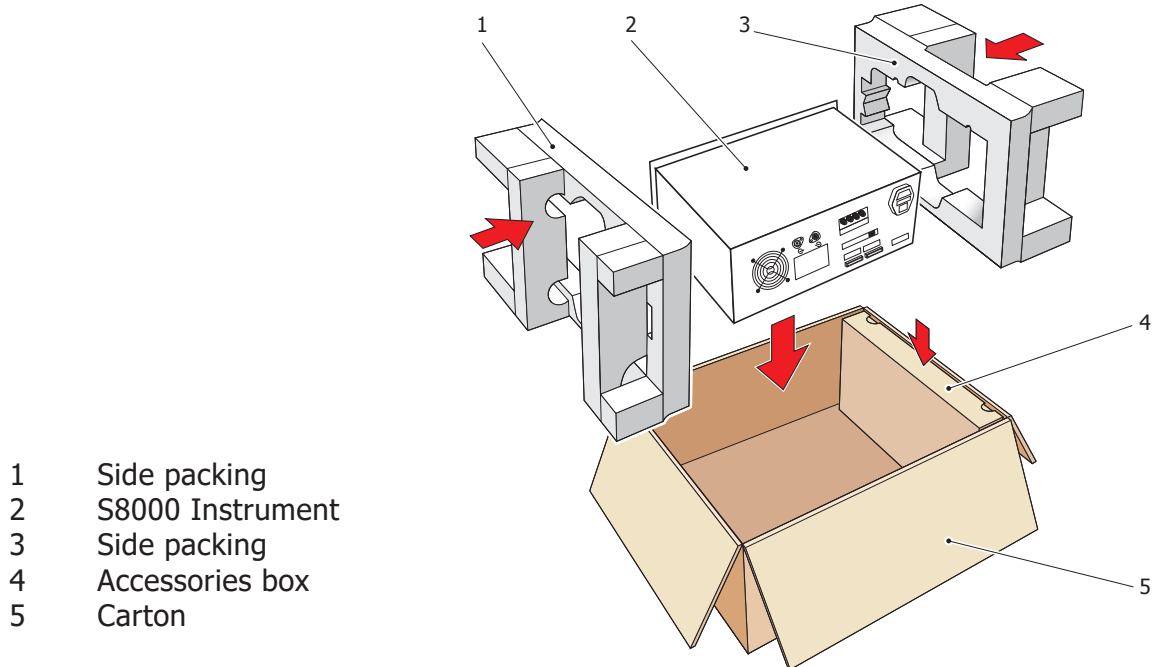

Figure 36 Instrument Packing Details
8. Pack the instrument in its original case as shown in *Figure 36*. **NOTE: The accessories should be packed in the box (4). Unless returning for repair, it is not necessary to return either the microscope or the analog and alarm connectors. All cables and the remote PRT probe (if supplied) should be returned for checking.**